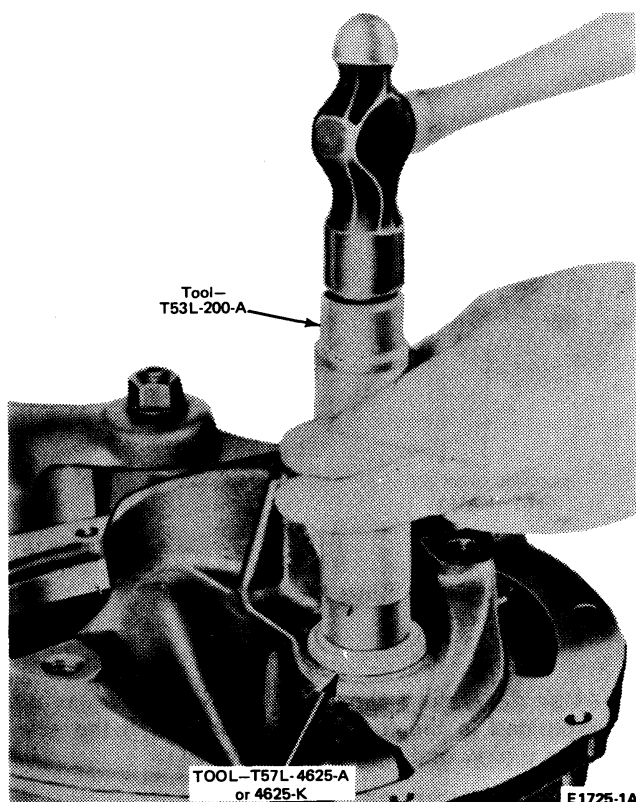

FIG. 26 Removing Pilot Bearing
1. Remove the pilot bearing as shown in Fig. 26. Drive out the bearing and the bearing retainer together.